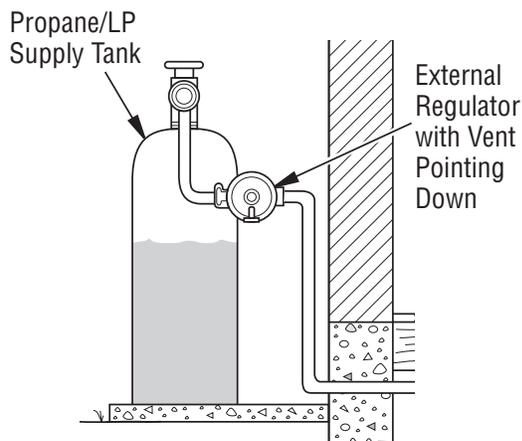

Figure 12 - External Regulator With Vent Pointing Down
* An equipment shutoff valve with 1/8" NPT tap is an acceptable alternative to test gauge connection. For propane/LP units, the installer must supply an external regulator. The external regulator will reduce incoming gas pressure. You must reduce incoming gas pressure to between 11" and 14" of water. If you do not reduce incoming gas pressure, appliance regulator damage could occur. Install external regulator with the vent pointing down as shown in **Figure 12**. Pointing the vent down protects it from freezing rain or sleet.